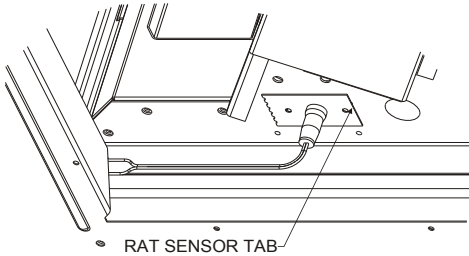

Figure 5
* If required: Secure RAT sensor with #10 x 16 x 1/2 screws provided with Economizer. (See Figure 5)